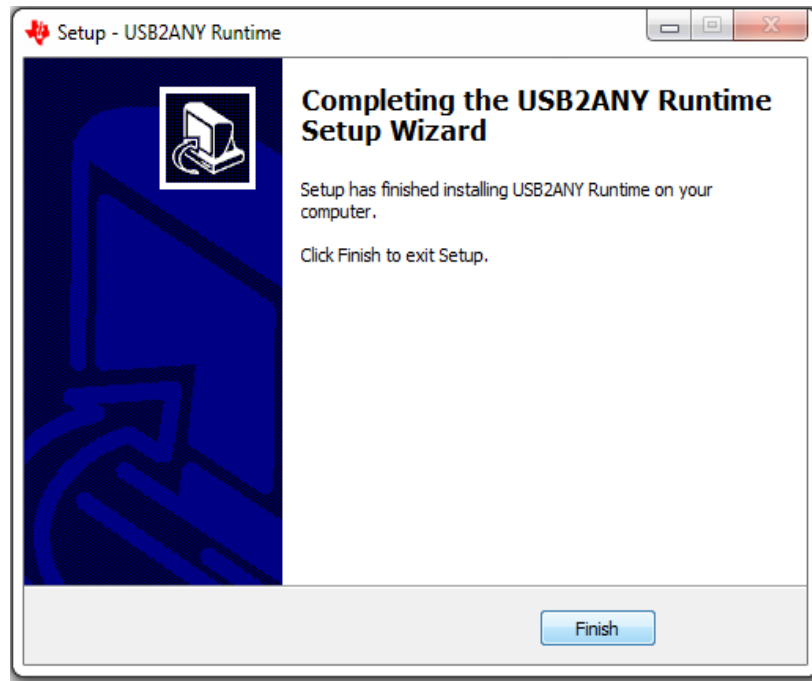

Figure 1-14 USB2ANY Installation Complete
13. A screen shown in Fig.1-14 will appear indicating the completion of USB2ANY installation.